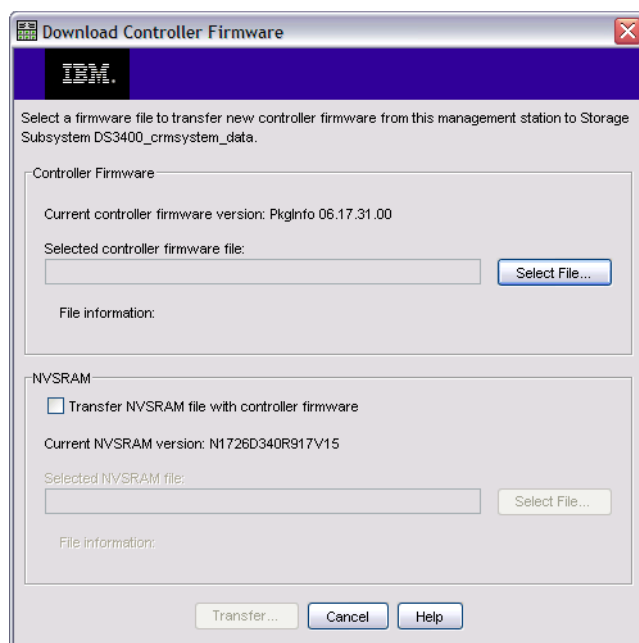

Figure 14-17 Download Controller Firmware
1. To update the controller firmware using the DS3000 Storage Manager, click **Download Controller Firmware**, as shown in Figure 14-12 on page 309. The window shown in Figure 14-17 appears.